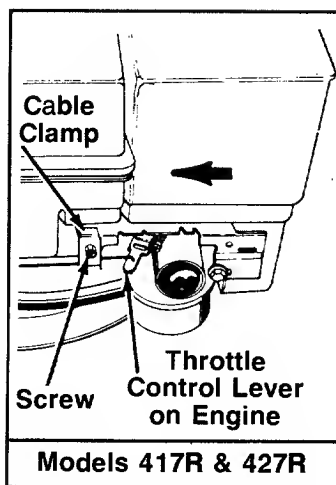

FIGURE 6C.—Tecumseh Engines
2. The throttle control cable is attached to the upper handle. Route the throttle control cable under the lower handle and inside the handle mounting bracket. Hook the "Z" end of the throttle control cable into the control lever on the engine as shown in figure 6C.
3. Loosen (do not remove) the screw on the cable clamp shown in figure 6C. Slip the control casing under the clamp (cable must move freely beneath the clamp).